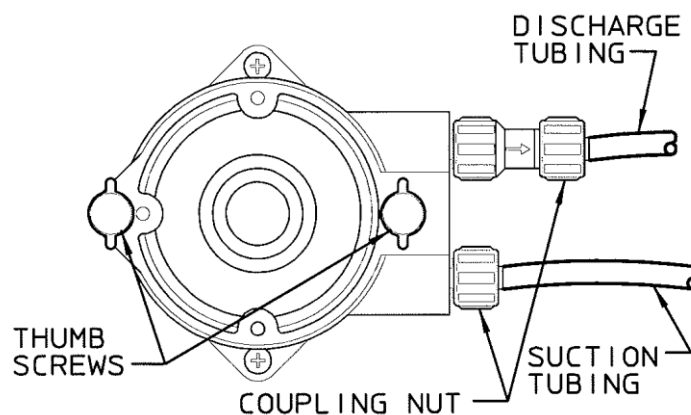

Figure 7a: Pump Head Assembly with Front Cover Attached
3. Loosen coupling nuts and remove the tubing from suction and discharge ports. See figure 7a.